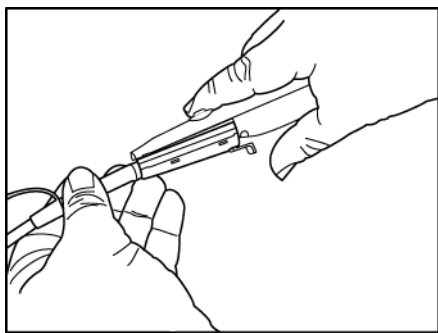

Fig. 11 Press the probe connector over the handle
- 7 Gently press the probe connector over the handle; press the tab on the umbilical connector to assist with engagement (Figure 11). An audible click will indicate the probe is properly connected.